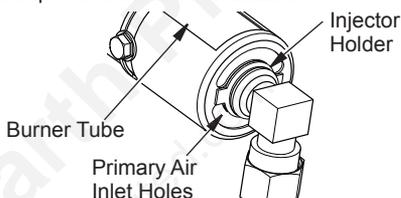

Figure 51 - Injector Holder On Outlet Burner Tube
2. Inspect burner, pilot and primary air inlet holes on injector holder for dust and dirt (see *Figure 51*).